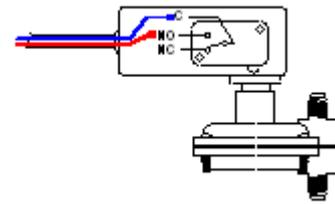

Fig 9 The Wiring Diagram of Conncion Box
- 1、 At first, should make sure, no mistake about the output. If not decler beforehand, this flow switch will have 2 cable, connecting with Output N.O.; If need Output N.C, just open the connection box, change the wire from N.O to N.C. For the reliable, please decler your demand to A.YITE GROUP before produce. Fig 9 The wiring Diagram of connection box.